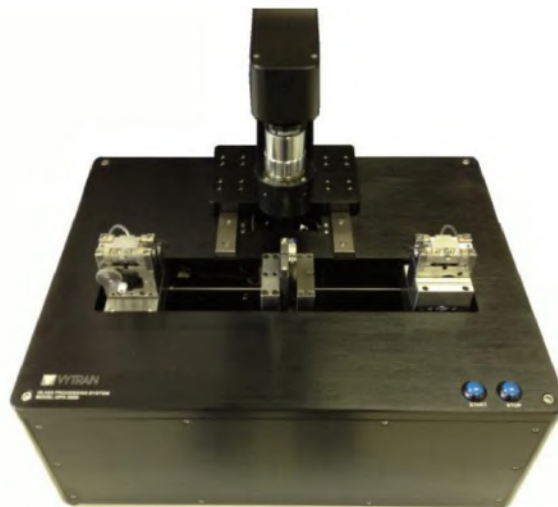

Figure 1 GPX3400 Workstation
The Vytran Glass Processor has three basic components: a splicing and glass processing workstation, a personal computer (PC), and a gas supply. The splicer workstation is illustrated in Figure 1.